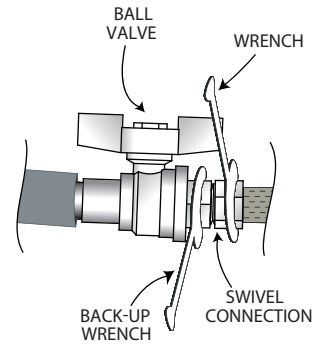

Fig. 22 — 42SU Unit Riser to Unit Installation (Tighten Swivel Connections)
- Use a wrench to tighten the swivel connections. Use a backup wrench to hold the riser ball valve stationary to prevent it from bending or twisting during installation as shown in Fig. 22. Be careful not to over-tighten swivel connections.